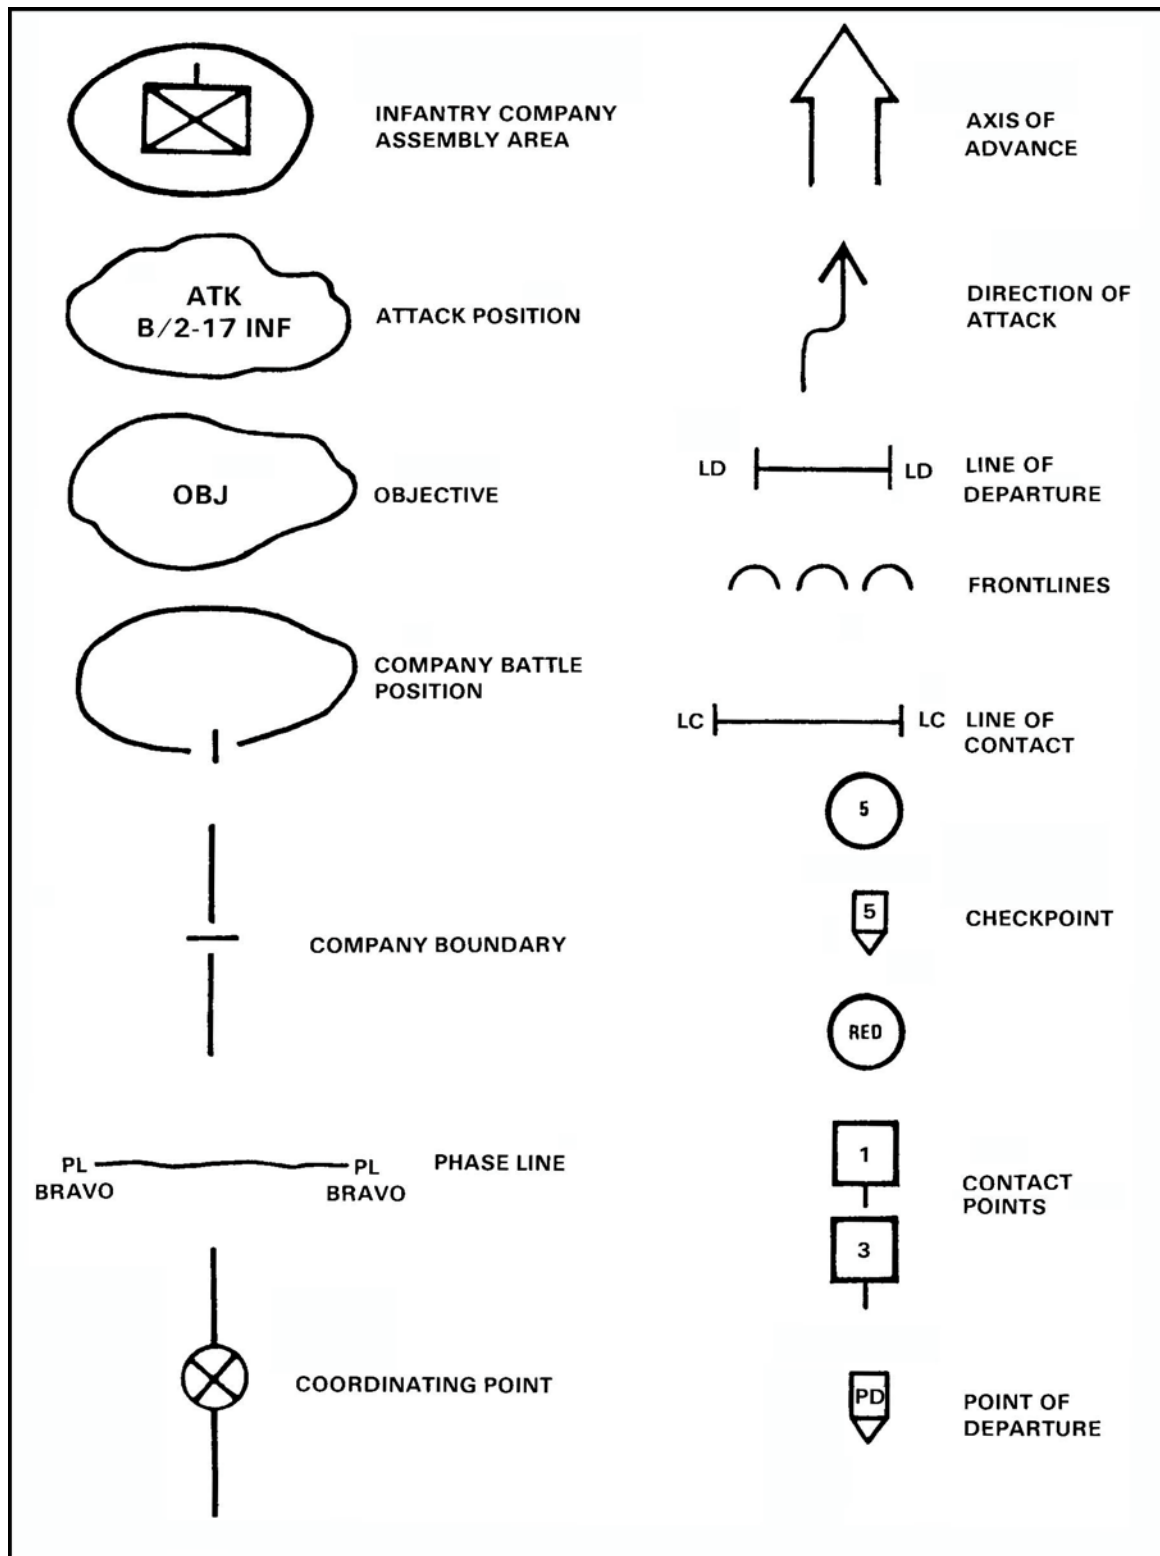

Figure 8. Tactical control symbols.
g. Tactical control measures (Figure 8).